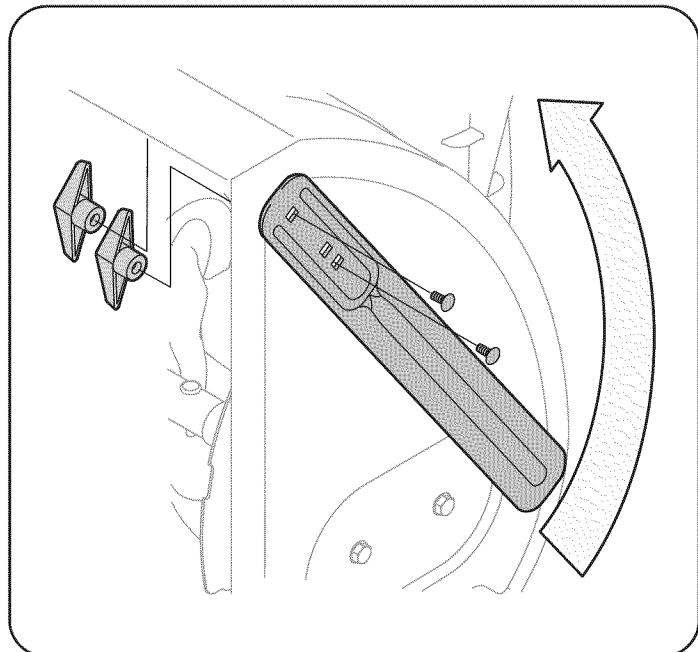

Figure 14
2. Turn the drift cutters around and position them as shown in Figure 14 to the outside of the auger housing.